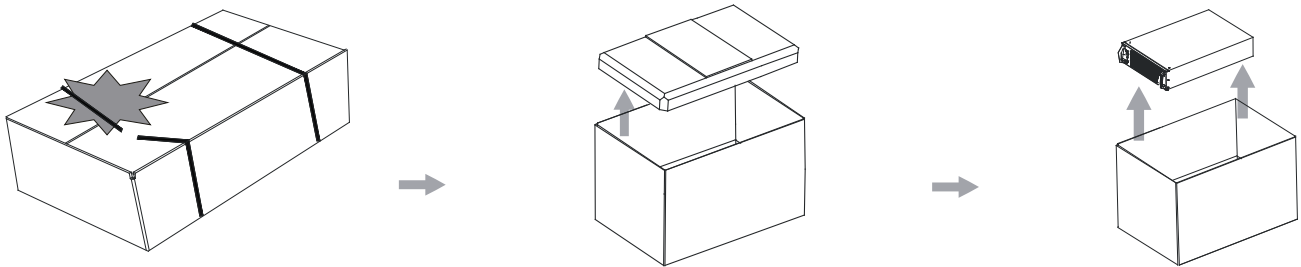

Figure 3-7: Instruction for Removing the UPM Module Packaging
1. Cut off the packing strap and open the carton (see Figure 3-7);
2. Lift the foam on the UPM module upward to remove them (see Figure 3-7);
3. Take out the UPM module (see Figure 3-7).